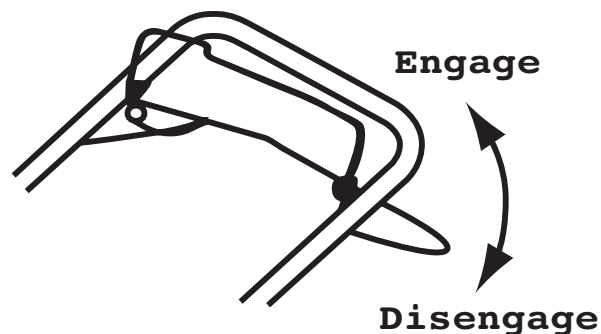

FIGURE 2
5. Lift bottom bail to engage the main shaft. (Figure 2)
7. Lift bottom bail to engage the main shaft. (Figure 2)